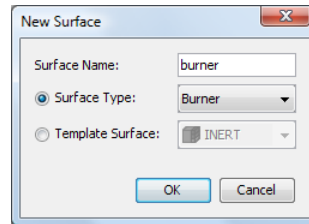

Figure 5.2. Creating a new burner surface
3. In the **Surface Name** box, type burner, Figure 5.2.